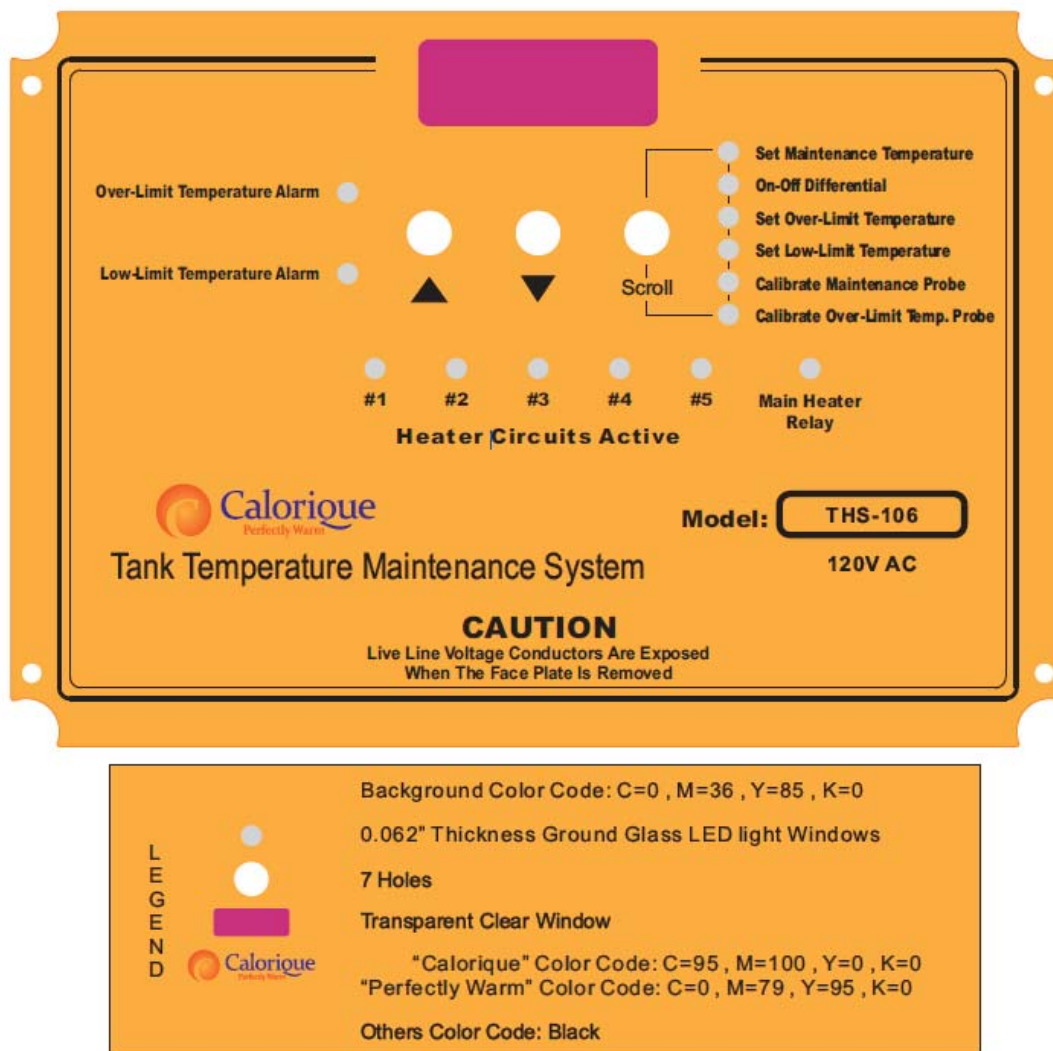
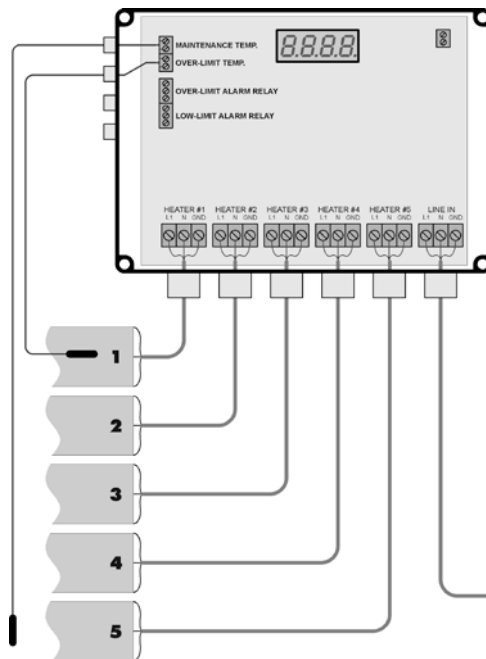

Figure 8.11
Figure 8.12
8.11.2 Heated tanks are equipped with at least 1 control box with maintenance temperature and over-limit temperature settings. The maintenance temperature setting should be set at the desired maintenance temperature. The over-limit temperature setting should be adjusted to 10 degrees above the desired maintenance temperature. The maximum temperature the over-limit control should be set to is 140° F for crosslinked polyethylene tanks and 130° F for high density linear polyethylene tanks. Be sure to check tank material type and design before setting any control temperatures over 100° F. It is best to keep the tank at the lowest temperature necessary to accomplish the desired objective. The Figure 8.11 shows a standard 110 VAC control box front cover with the control functions shown. This control box has calibration functions for the temperature probes. The control box is factory calibrated and should not need recalibrated. If there are any questions about control box calibration, consult the factory. Figure 8.12 shows a schematic of the terminal connections possible located under the control box front cover. The terminals available for customer connection are: line in, over-limit alarm relay, and low-limit alarm relay. There are other control boxes available with different functions not detailed in these instructions. Please consult the factory with questions regarding other types of control boxes available. Do not expose control box to atmosphere during or after installation for extended periods of time as this could cause condensation. Refer to the control box instructions and schematics sent with each tank for further details.